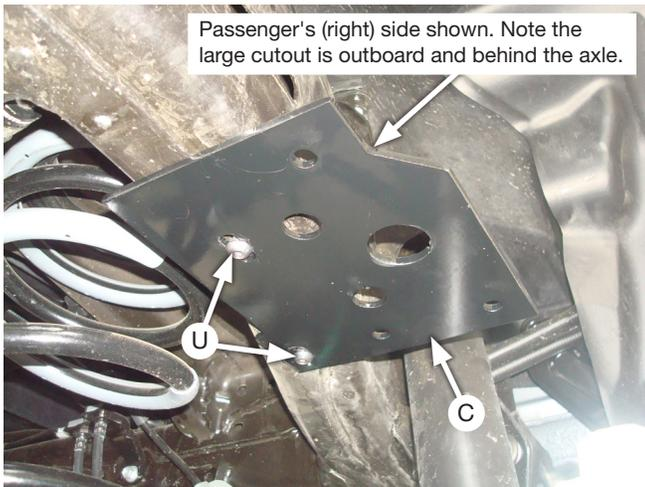

Fig. 15
10. Install the two frame brackets (C) to the underside of the frame using the M8 button-head cap screws (U), making sure the large cutout in the bracket is facing outboard and is behind the axle (Figs. 15 & 16). Leave loose at this time.